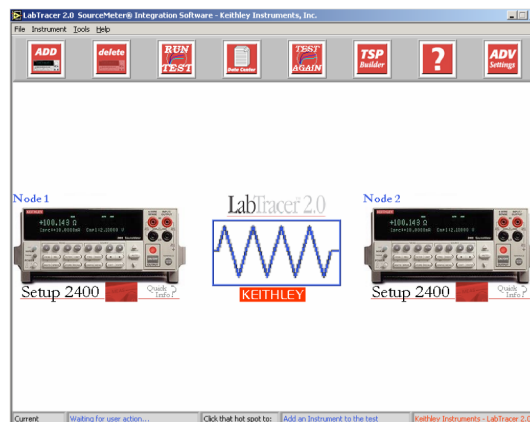

Fig. 6: LabTracer main window with the voltage divider test running.
- (f) **Run Software:** Run the Keithley program for controlling the SMUs by clicking the “LabTracer” icon in the upper right corner of the computer’s desktop (or, if that fails, go to Start→All Programs→Keithley Instruments→Labtracer 2.0) wait for a window to appear as shown below in Figure 6. If the symbol in the center of the window shows a circuit element *other* than a resistor, simply click the symbol to bring up a pop-up menu of possible elements, then click on the resistor in the menu.
In this experiment we are going to produce terminal or current-voltage characteristics (also called I-V measurements) of several two-terminal devices. It should be obvious by now that only one SMU is required to accomplish this. Note: When you take ECE3150 your will use two SMUs to perform I-V testing on three-terminal devices called transistors. Now if you review Figure 6, the main window you will find a delete button at the top, which, once clicked, will remove the second SMU (the lower unit) from the program's control. You can turn off the power to SMU 2.